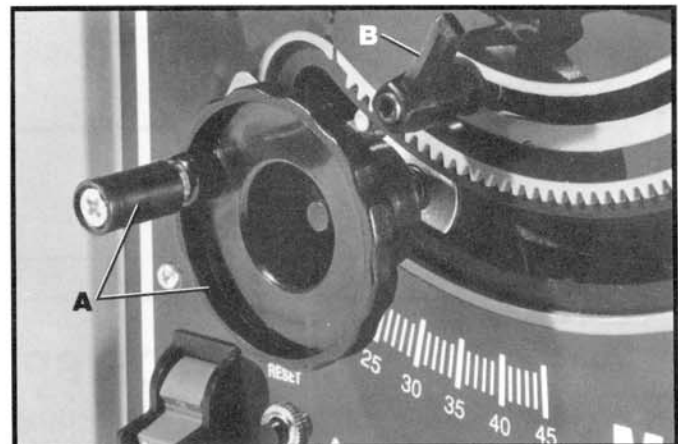

Fig. 20
To raise or lower the saw blade, turn handwheel (A) Fig. 20. Turning the handwheel clockwise lowers the blade and turning the handwheel counterclockwise raises the blade. **WARNING: THE BLADE TILTING LOCK HANDLE (B) FIG. 20, MUST BE LOCKED DURING ALL CUTTING OPERATIONS.**